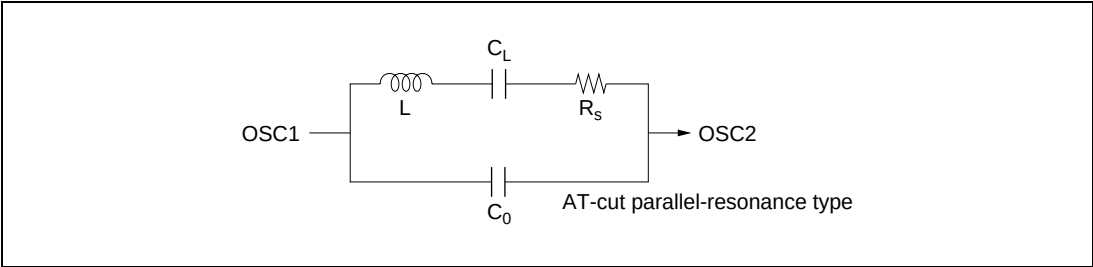

Figure 9.3 Crystal Resonator Equivalent Circuit
**Crystal Resonator:** Figure 9.3 shows the equivalent circuit of the crystal resonator. Use a crystal resonator that has the characteristics shown in table 9.2 and the same frequency as the system clock ( $\phi$ ).